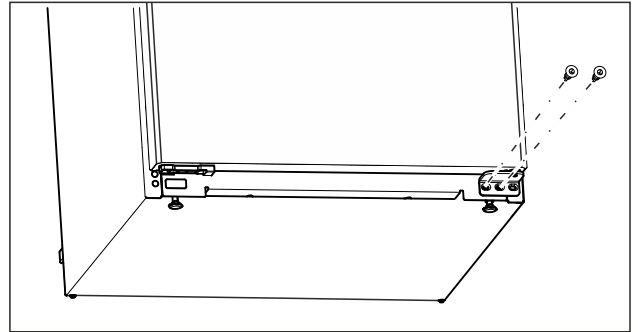

Fig. 14
- ▶ Unscrew the middle screw on the lower swap bearing block with a Torx 20 screwdriver. (see Fig. 14)
- ▶ Unscrew the inner screw on the lower swap bearing block with a Torx 20 screwdriver. (see Fig. 14)